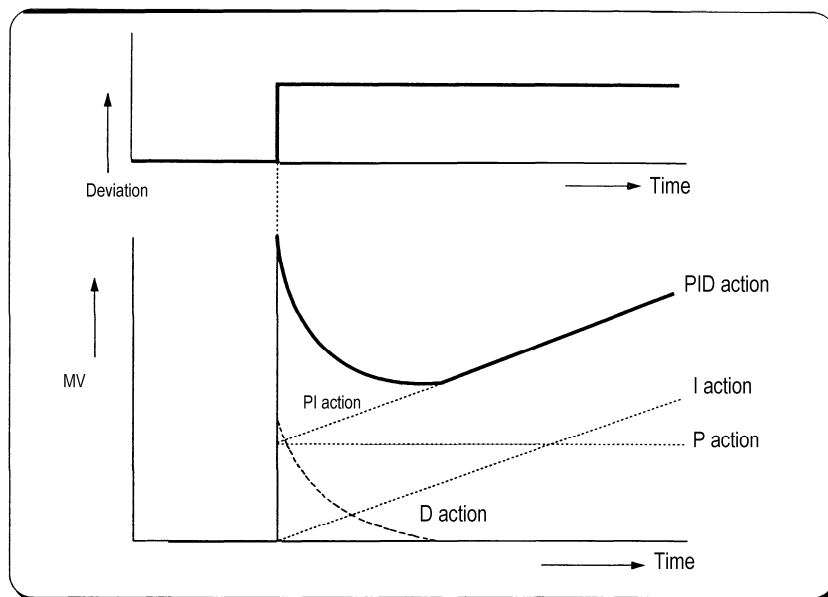

Fig. 7.6 Derivative action with a constant deviation
- ① When a deviation occurs, due to alteration of SV or external disturbances, D action restrains the changes of the deviation by producing MV which is proportioned with the change velocity (a velocity whose deviation changes at every constant interval) in order to eliminate the deviation.
- ② D action gives quick response to control action and has an effect to reduce swiftly the deviation by applying a large control action (in the direction that the deviation will be eliminated) at the earlier time that the deviation occurs.
- ③ D action can prevent the large changes of control object due to external conditions.
- ④ The period of time from when the deviation has occurred to when the MV of D action becomes the MV of P action is called derivative time and is represented as  $T_d$ .
- ⑤ The D action when a constant deviation occurred is shown as Fig. 7.6